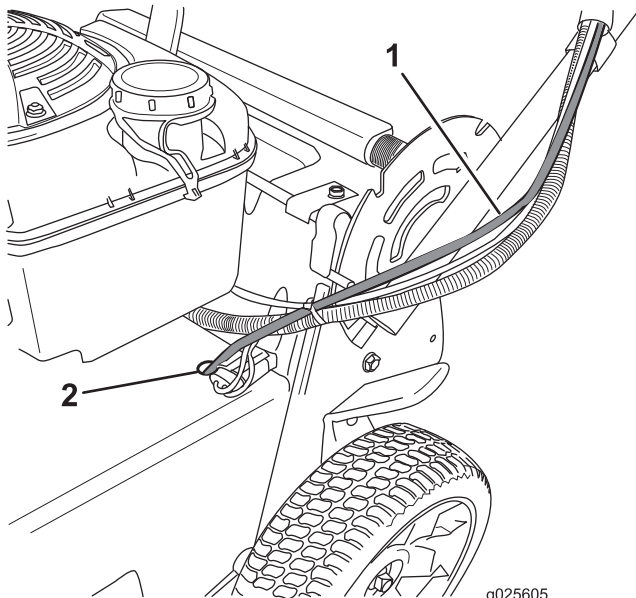

Figure 4
6. Route the cable upward along the left side of the handle as shown in Figure 4.